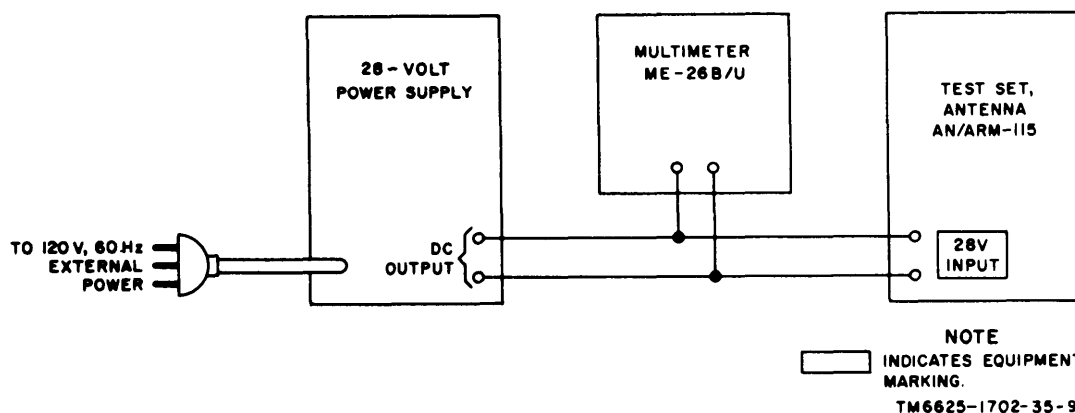

Figure 4-1. Dc meter scale test, test setup.
(fig. 4-1)
(1) Power supply, 28-volt dc.
(2) Multimeter ME-26B/U.
- b. *Test Connections and Conditions.* Connect the test equipment as shown in figure 4-1.